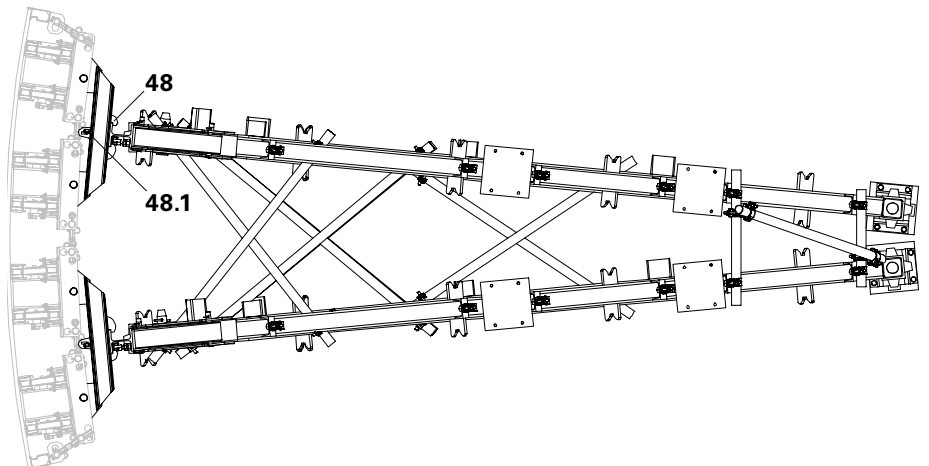

Fig. B1.02
3. Slide waler connectors (48) onto the profiles of the brace frames, insert into the distribution walers and secure with Wedge K (48.1).
5. Anchor brace frames. (Fig. B1.02)